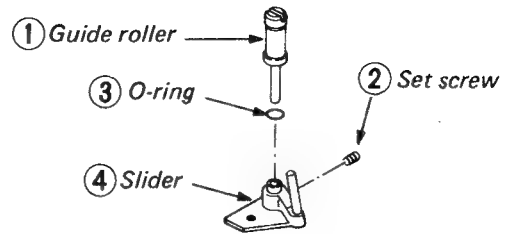

Fig. 1-3-23 Guide roller replacement
- 1) Loosen the set screw ② shown in Fig. 1-3-23.
- 2) Turn the guide roller ① counterclockwise and remove it.